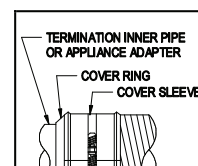

Figure 10
9. Maintain the following clearances to combustibles. If the appliance collar is within 18" of combustible material, wrap minimum 1-1/2" ceramic insulation (installer-supplied) around the exposed portion of the termination inner pipe and appliance adapter (Figure 10).
9. Slide the cover sleeve and cover ring together to engage the ring in the groove of the sleeve, and tighten the cover sleeve clamp (Figure 10).
10. To maintain 1" clearance to combustibles, wrap minimum 1-1/2" thick ceramic insulation (installer-supplied) around the exposed portion of the termination inner pipe (Figure 10), and secure with foil tape (installer supplied).